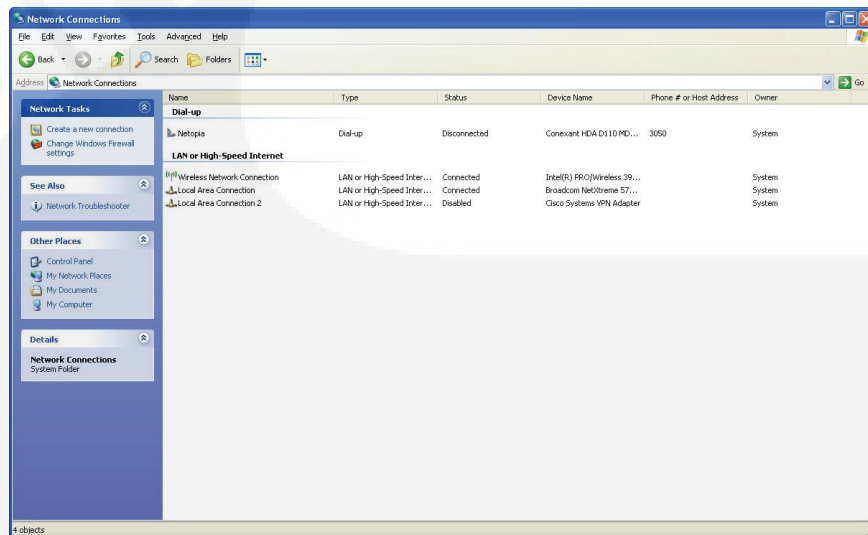

FIGURE A-6. SELECTING “VIEW NETWORK CONNECTIONS”
2. From the My Network Places window, select **View Network Connections** from the Network Tasks window on the left side of the screen (see Figure A-6).